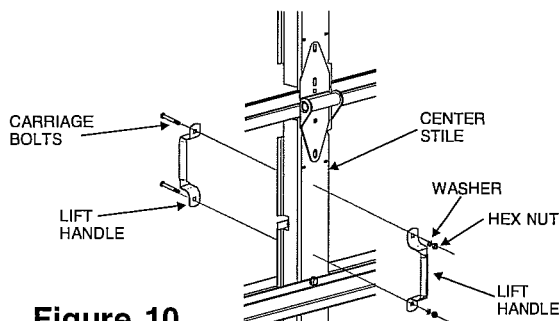

Figure 10
1. Locate lift handles, vertically above bottom rail on first center stile over on lock side. See Figure 10.
3. Secure lift handles with (2) 1/4" carriage bolts, washers and nuts. See Figure 10.